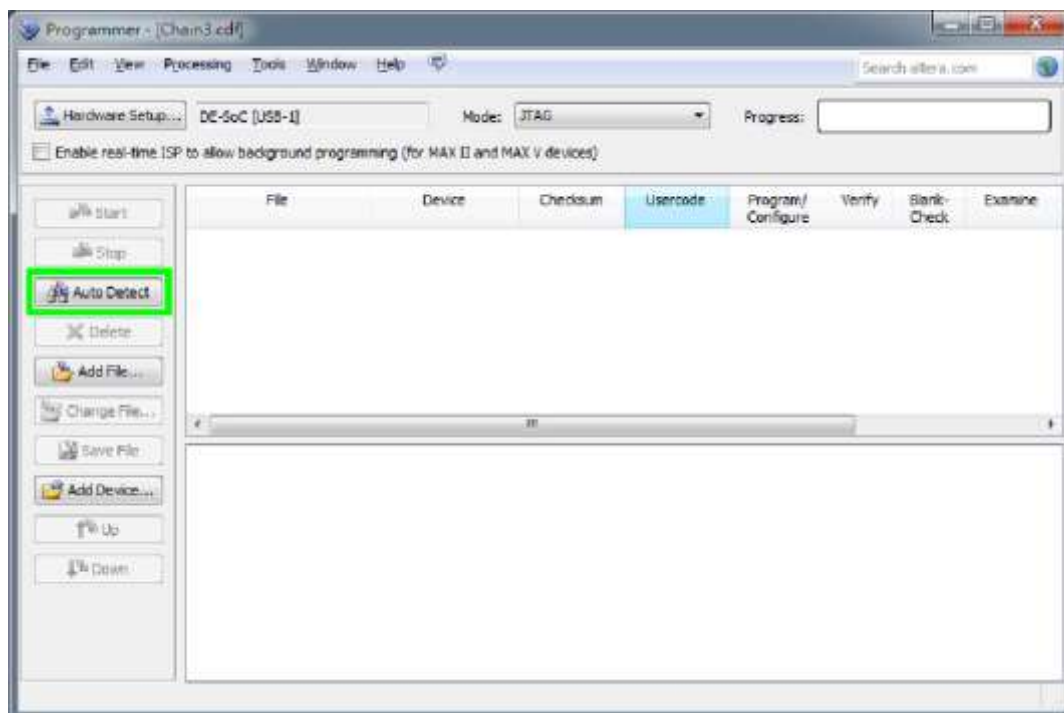

Figure 3-3 Detect FPGA device in JTAG mode
1. Open the Quartus II programmer and click “Auto Detect”, as circled in Figure 3-3